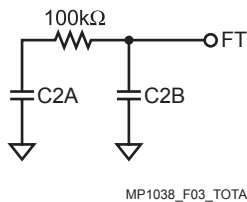

Figure 3—Timeout Adjustment
Secondary Overcurrent Timeout: When the MP1038 is regulating secondary overcurrent (SI feedback), the source current in the Fault Timer (FT) cap is approximately 55uA. This causes the SI timeout to be about 1/55 of the Open Lamp (LV) timeout. To reduce the SI timeout further, modify the network at the FT pin as shown in Figure 3.